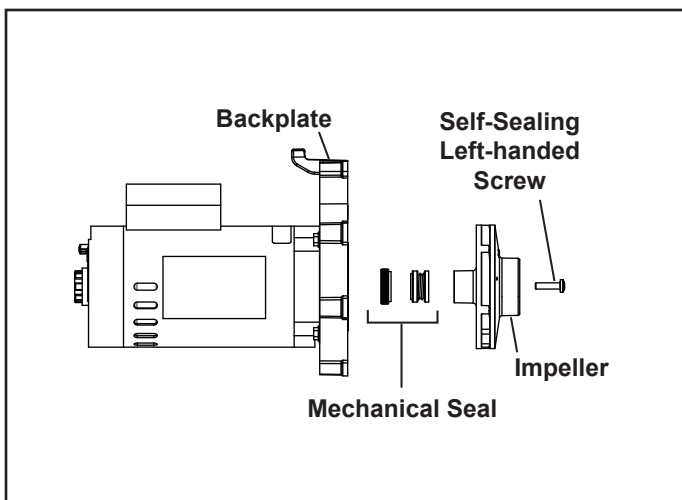

Figure 6. Remove the Impeller
8. Hold the exposed motor shaft with a ½" wrench while removing the impeller center screw using a No. 2 Phillips screwdriver. Since the impeller center screw is a left-hand threaded screw, turn it clockwise to loosen it. See Figure 6.